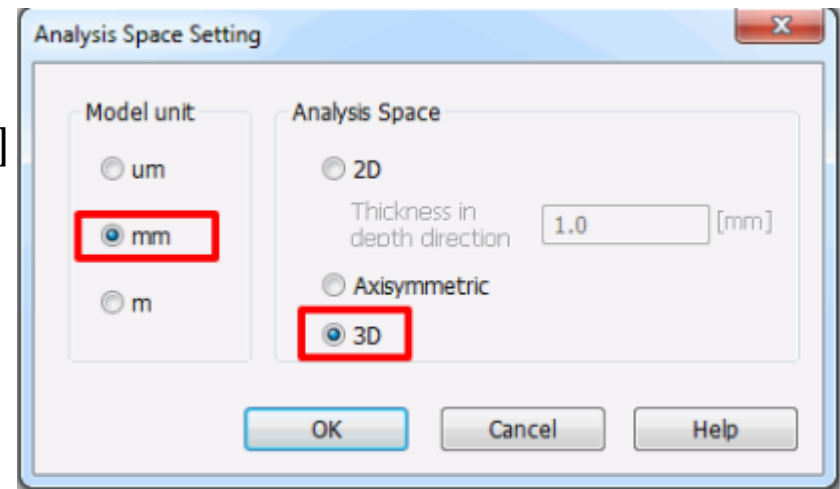

Fig. 3 [Analysis Space Setting] Dialog Box
2. In the [Analysis Space Setting] dialog box, check that Model unit is mm and Analysis Space is 3D. Click OK. (Fig. 3)